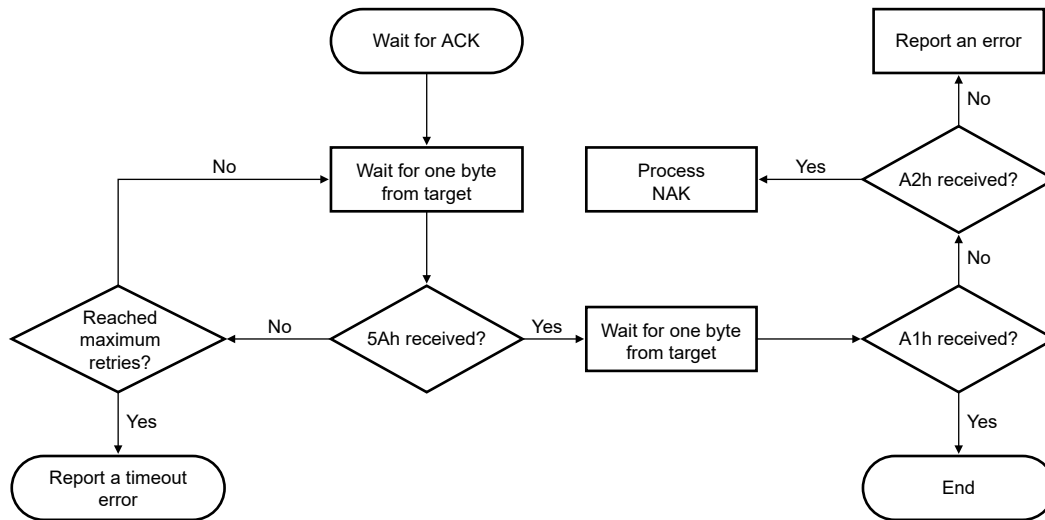

Figure 23. Host reads an ACK from target via UART
- Figure 23 shows how the host detects an ACK from the target.